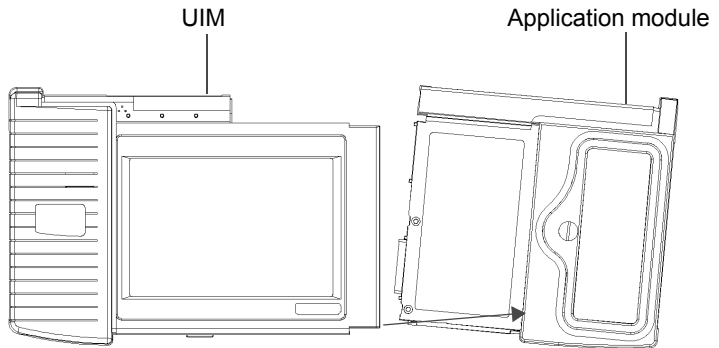

Figure 8 UIM insertion into application module slot
- 5 While holding the application module at a slight angle (see Figure 8), insert the bottom right corner of the UIM no more than 1/4 inch into the inside bottom edge of the application module slot.